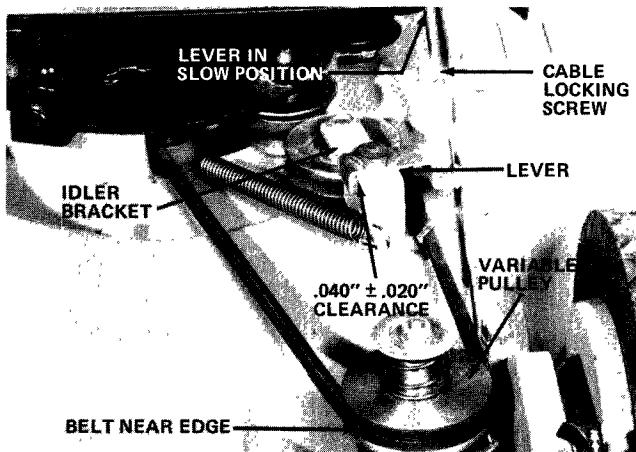

Figure 36
5. Rotate the idler bracket counter-clockwise and force the variable pulley halves together as shown in Figure 36, so the belt is riding out near the edge of the pulley.
6. Position the cable and inner wire to obtain a clearance of $.040"$, $\pm .020"$ between the idler bracket and the idler bracket lever as shown in Figure 36. Secure the cable in this position with the locking screw.